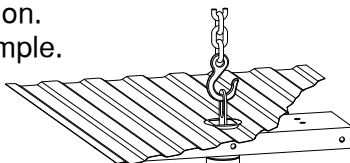

Figure A1.
5. **Prepare a lifting device (optional).** The purpose of the device is to safely hold the hitch in position during part of the installation. See Figure A1 for an example.